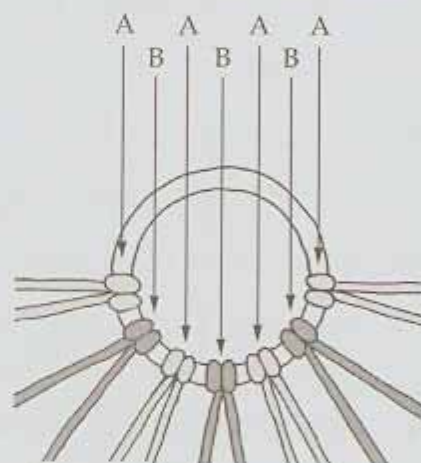

Fig. 1
1. Using a single **MH** (Mounting Hitch) for each cord, attach 4 doubled lengths of Color A and 3 lengths of Color B to a jump ring. Alternate the colors in this way - Color A, B, A, B, A, B, A (see Figure 1). Push all cords closely together. If you are using a jump ring with a precut opening, make sure the opening is securely closed and concealed by the cords.